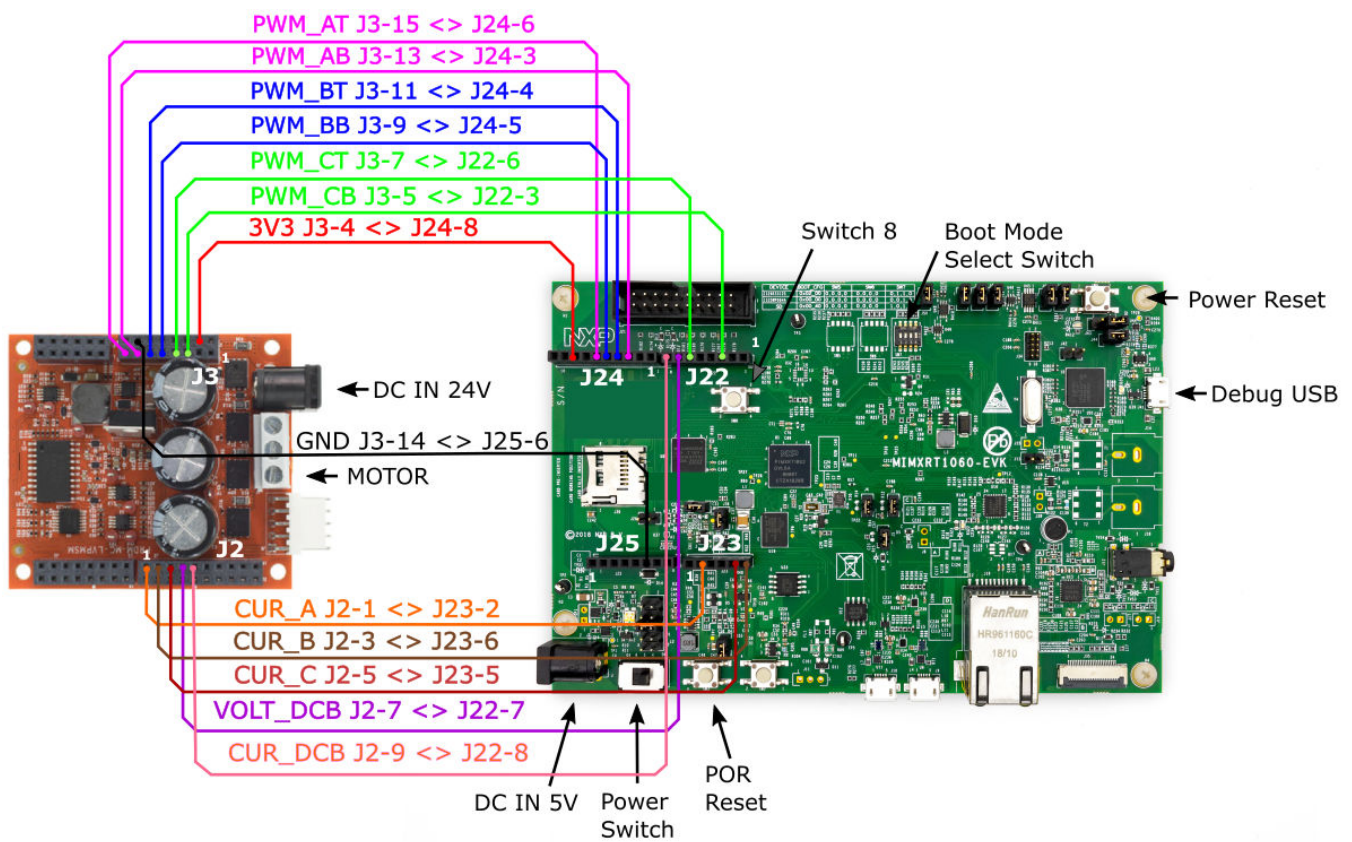

Figure 14. MIMXRT1060-EVK interconnection diagram
1. Wire the FRDM-MC-LVPMSM power stage to the MIMXRT1060-EVK board according to the pin assignment (Table 7) and the interconnection diagram (Figure 14).